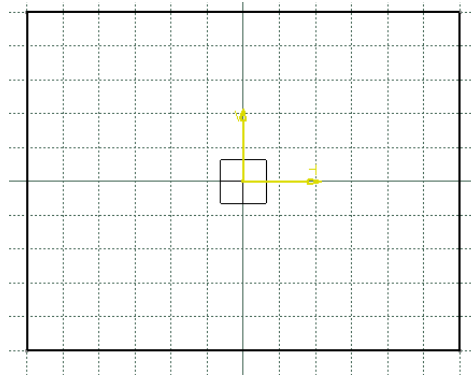

Figure 2-70 The outer loop of the sketch
3. Move the cursor to the location whose coordinates are 60,50 and click to specify the upper right corner of the rectangle. Figure 2-70 shows the outer loop of the sketch drawn using the **Rectangle** tool.